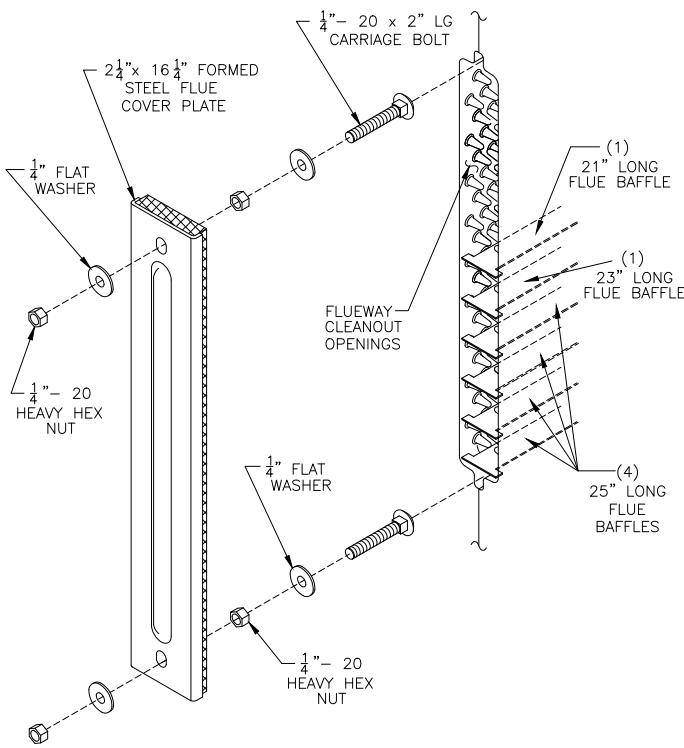

**Figure 15: Right Side Canopy Intermediate Bracket**
- d. Secure canopy right side bracket(s) with 1/4 - 20 x 5" lg. carriage bolts. Insert head of carriage bolt between canopy body and casting. Slide carriage bolt into slot provided between castings. Lower carriage bolt until threaded end will pass through hole in bracket. Secure canopy with 1/4" flat washers, lock washers and brass nuts. See Figure 15.